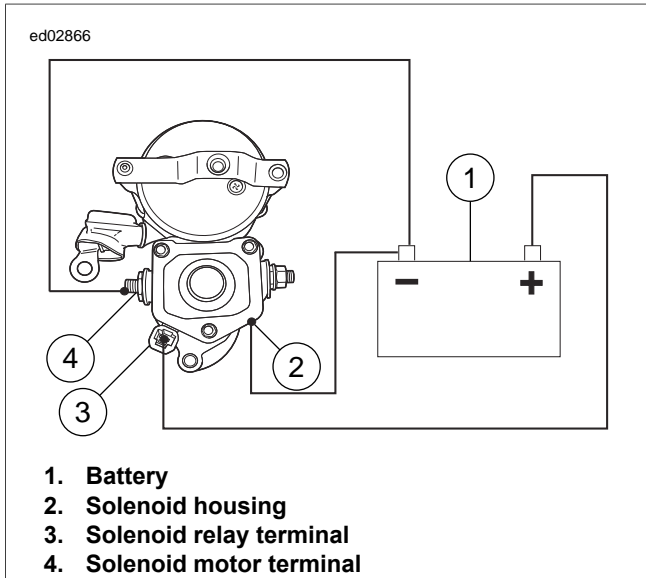

Figure 3-11. Pull-In Test
Do not disassemble solenoid. Before testing, disconnect field wire from solenoid motor terminal as shown in Figure 3-11.
- See Figure 3-11. Using a 12V battery, connect three separate test leads as follows: